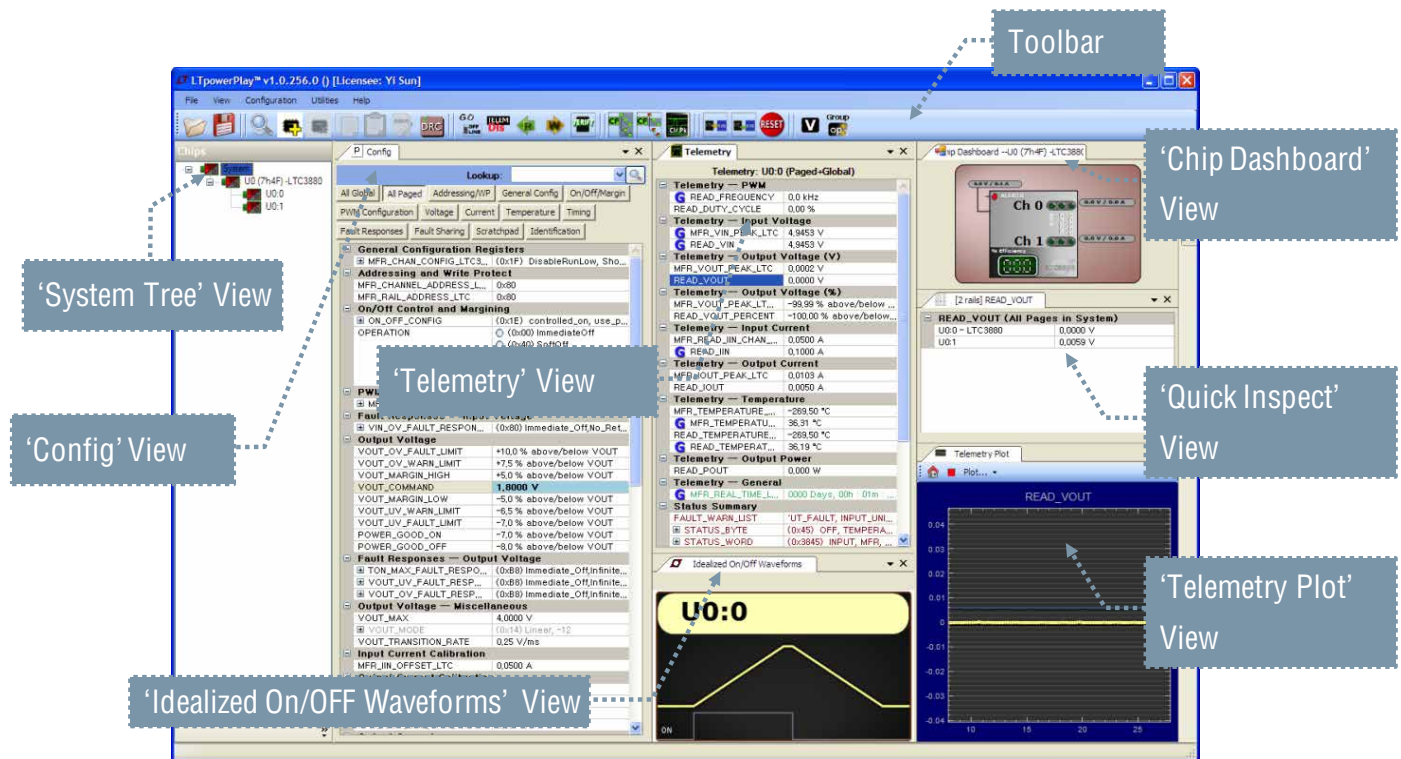

Figure 4. LTpowerPlay interface of programming the LTC3884
6. On your PC, launch LTpowerPlay. LTpowerPlay will identify the DC2298A and launch the appropriate GUI. See Figure 4.